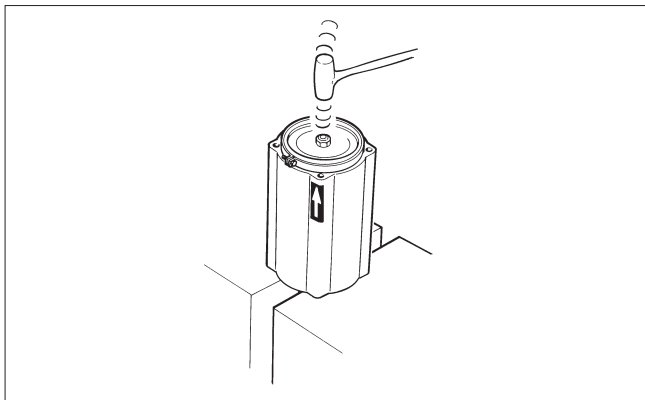

Fig. 13 Placing the piston in the cylinder
- Hammer or press the piston into the cylinder through the tie ring. Note the indicator arrow direction. See Fig. 13.
- Install new O-rings (19). Sizes 6, 8 and 10: ensure that the protection bushing (12A) is in place. Replace cylinder end and install cylinder with piston. Note the location of the air supply port: it must correspond to the exhaust air port in the cylinder base. Tighten screws (31); the torque is given in Table 2.